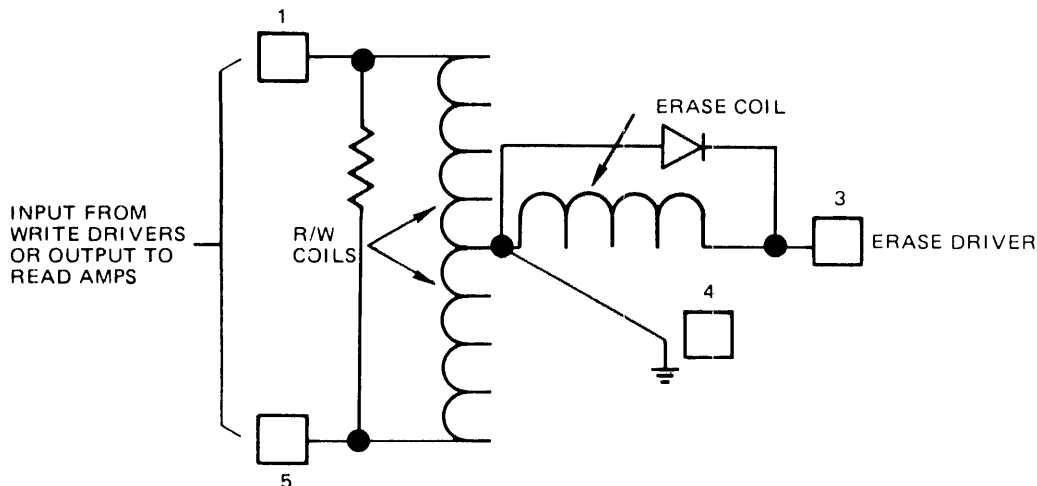

FIGURE 23. READ/WRITE HEAD
**8.1** The read/write head contains three coils. Two read-write coils are wound on a single core, center tapped and one erase coil is wound on a yoke that spans the track being written. The read-write and erase coils are connected as shown on Figure 23.